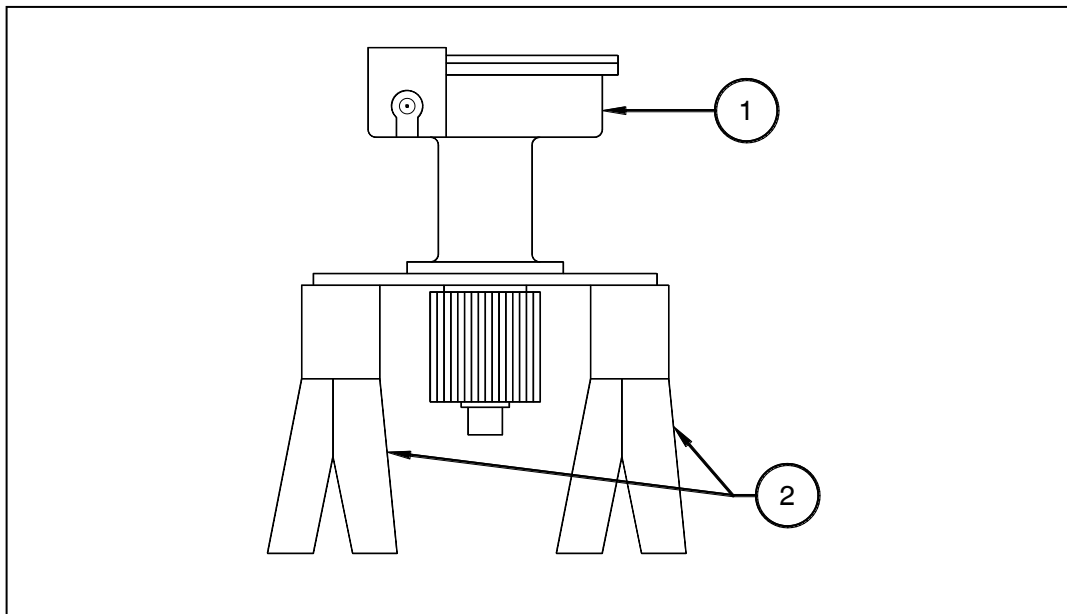

Figure 4.7b
- e. Place the worm gear unit on sawhorse-type supports as shown in Figure 4.7b. Make sure this device will support the weight of the worm gear unit.